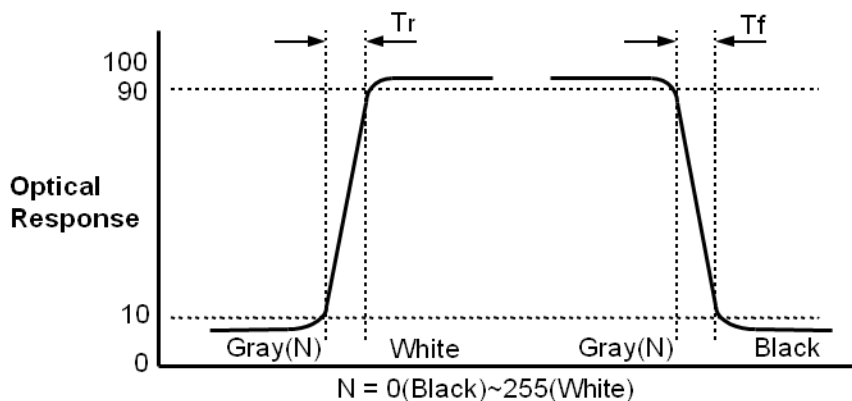

FIG. 3 Response Time
4. Response time is the time required for the display to transit from any gray to white (Rise Time, Tr_R) and from any gray to black (Decay time, Tr_D). For additional information see the FIG. 3.